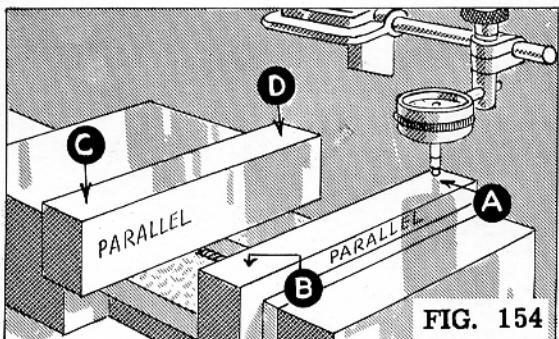
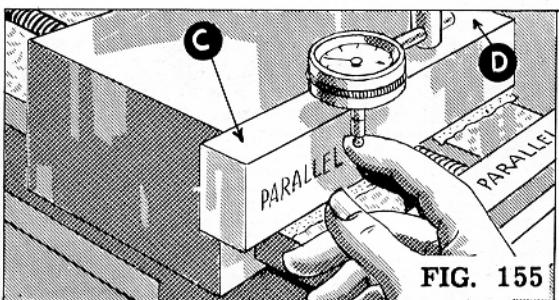

FIG. 154
FIG. 155
17. Move the ram so that it is at the beginning of the stroke. Move the table so that one end of the parallel is under the contact point of the indicator as shown at (A) in Fig. 154.
19. Note the measurement on the dial. Then, move the ram to the forward position (B). If the vise is parallel, the indicator will show the same reading at both ends of the parallel.
20. Bring the surface (C) of the second parallel under the indicator. NOTE: Raise the contact shaft slightly with the finger as the parallel is moved directly underneath the point of the indicator as shown in Fig. 155.